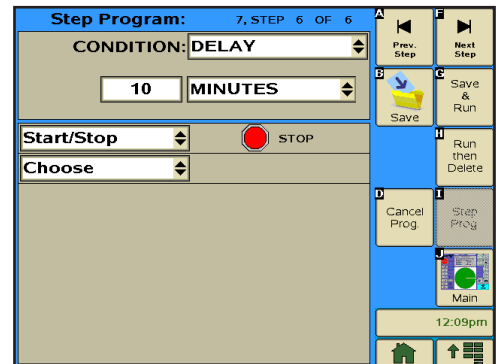

Figure 141-3
20. Program the delay time condition for this step. Refer to Figure 141-3.